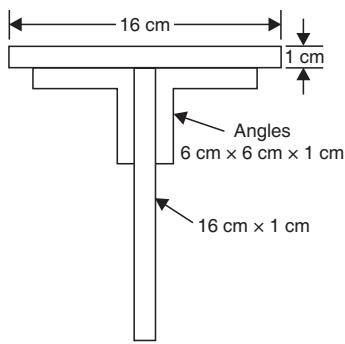

Fig. 8.21
**Example 8.3.** A T-beam is made up of two plates and two angles as shown in Fig. 8.21. Determine the moment of inertia of T-section about an axis passing through the centroid of the section and parallel to the top plate.